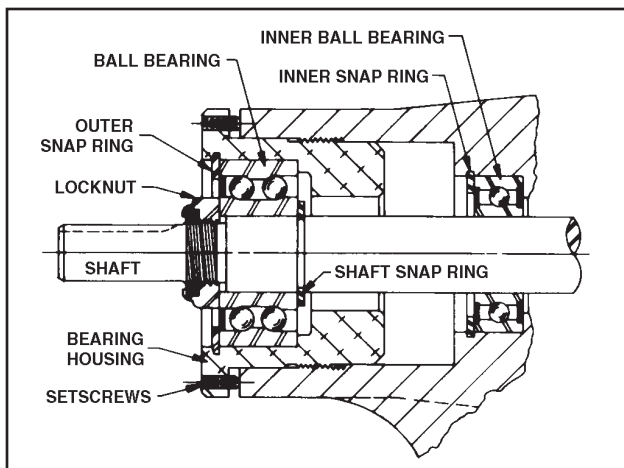
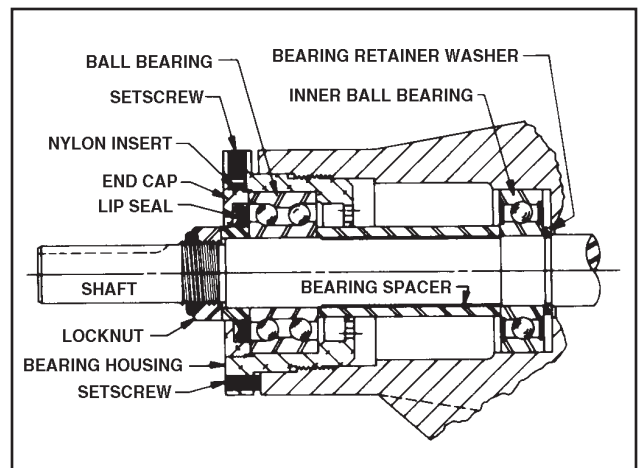

Figure 26 - Thrust-Bearing assembly (GG, HJ, HL)
Figure 27 - Thrust-Bearing assembly (AS, AK, AL)
Turn the locknut counterclockwise and remove locknut. See Figure 26 or 27.
6. Loosen two setscrews in face of bearing housing and turn thrust bearing assembly counterclockwise and remove from casing. See Figure 26 or 27.
7. **GG, HJ, HL:** Remove snap ring from shaft. See Figure 26. **AS, AK, AL:** Remove bearing spacer from shaft. See Figure 27.
10. **AS, AK, AL:** Remove bearing retainer washer. The washer may have stayed with rotor and shaft when removed or is against ball bearing. See Figure 27.
GG, HJ, HL: Remove outer snap ring from bearing housing and remove ball bearing. See Figure 26.
AS, AK, AL: Loosen two set screws in flange outside diameter. Rotate end cap and lip seal counterclockwise and remove. Remove ball bearing. See Figure 27.
12. **GG, HJ, HL:** Install shaft snap ring in groove in the shaft. See Figure 26.
AS, AK, AL: Install bearing spacer over shaft and against single row ball bearing. See Figure 27.
13. Pack lubrication chamber between inner ball bearing and double-row ball bearing in the thrust-bearing assembly approximately one-half full of multipurpose grease, NLGI #2. The thrust-bearing assembly will take the remaining space. See Figure 26 and 27.
GG, HJ, HL: Install ball bearing into bearing housing with shield side toward coupling end of shaft. See Figure 26. Install snap ring into bearing housing to retain ball bearing. This snap ring has a tapered edge to fit tapered groove in bearing housing. The tapered edge is located away from ball bearing.
AS, AK, AL: Install ball bearing into bearing housing. Install lip seal in bearing housing end cap. The lip should face towards end of shaft. Put bearing spacer collar in lip seal and install in bearing housing and tighten setscrews securely. See Figure 27.
See Figures 26 and 27.